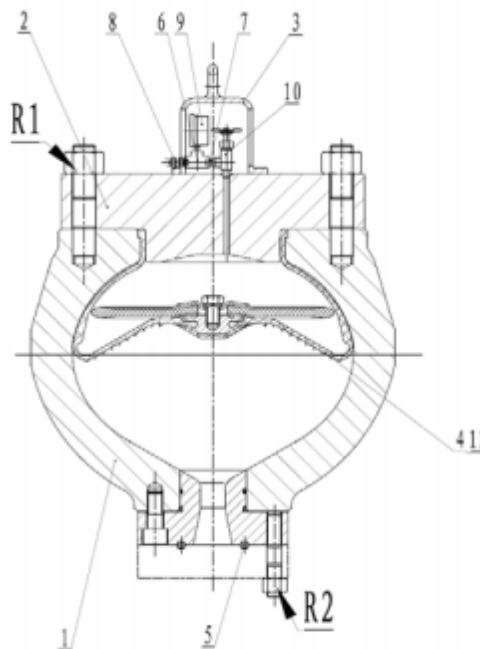

Fig. 12 WY75-52 pulsation dampener assembly
Structure of WY75-52 pulsation dampener is as shown in Fig. 12. The lifting lugs installed on the pressure gauge enclosure (3) are used to hoist pulsation dampener assembly. The sealing groove, rim and sealing groove of coupling flanges must be completely cleaned before installation and coated with grease.